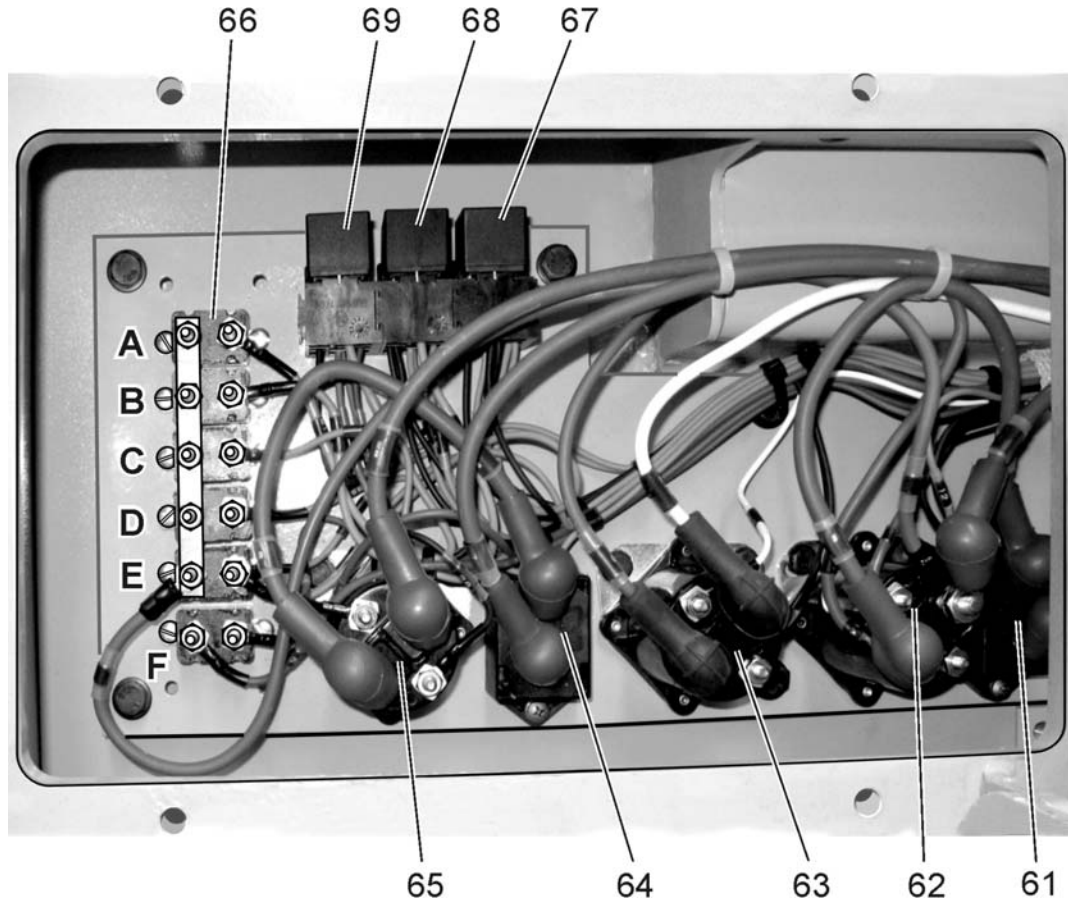

Fig. 8.A0. R.H. Fender Circuit Breakers Box
The electric system master switch (49) located in the positive lead of batteries (32) must be in the "ON" position to complete the battery circuit for starting power. When the starting key is turned in the starting switch (58) to "START", current flows from battery to starting switch by circuit breaker 10 [A] (66F, Fig. 8.A0) and the next to start-up lock switch (29, Fig.8.A1). If the drive train start-up lock lever is in its lower "LOCKED" position current flows by start-up lock switch (29) closed contacts to solenoid of engine starting magnetic switch (63, Fig. 8.A0). The cranking motor (10) solenoid is actuated by closed contacts of magnetic switch (63) and it draws the cranking motor spool in, engaging the drive gear for the starter and connecting the battery cable to motor for cranking. Both the magnetic switch and starter solenoid are spring tensioned to remain in the "disengaged" position. When the starting switch (58) is released, both units release their spools, breaking the circuit.